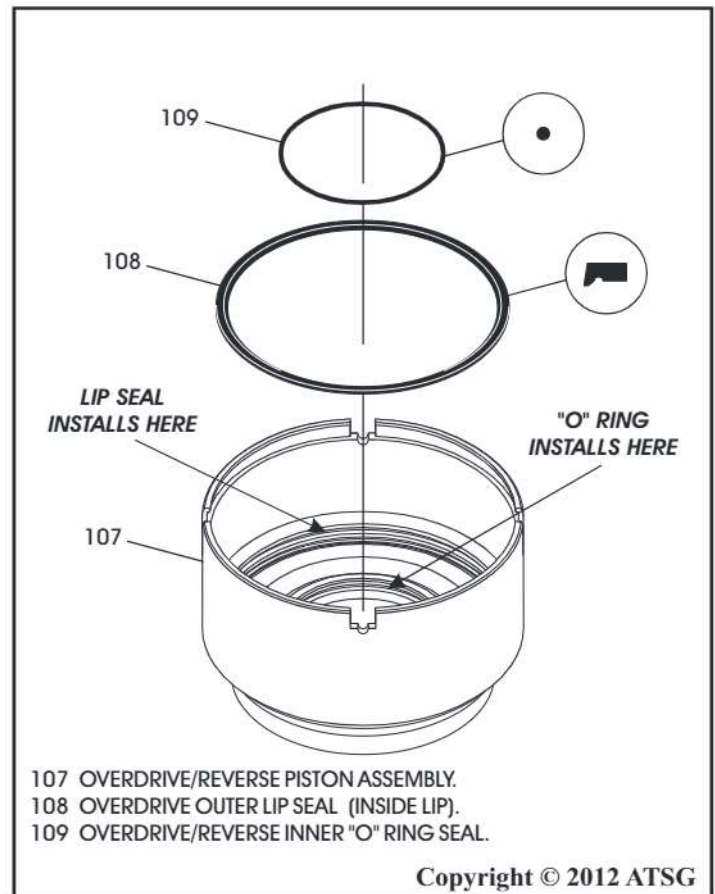

Figure 179
10. Install overdrive outer lip seal (inside lip) into groove on the inside of the overdrive/reverse piston, with the lip facing down, as shown in Figure 179.
11. Install the overdrive/reverse inner "O" ring seal into the groove in the overdrive/reverse piston, as shown in Figure 179.